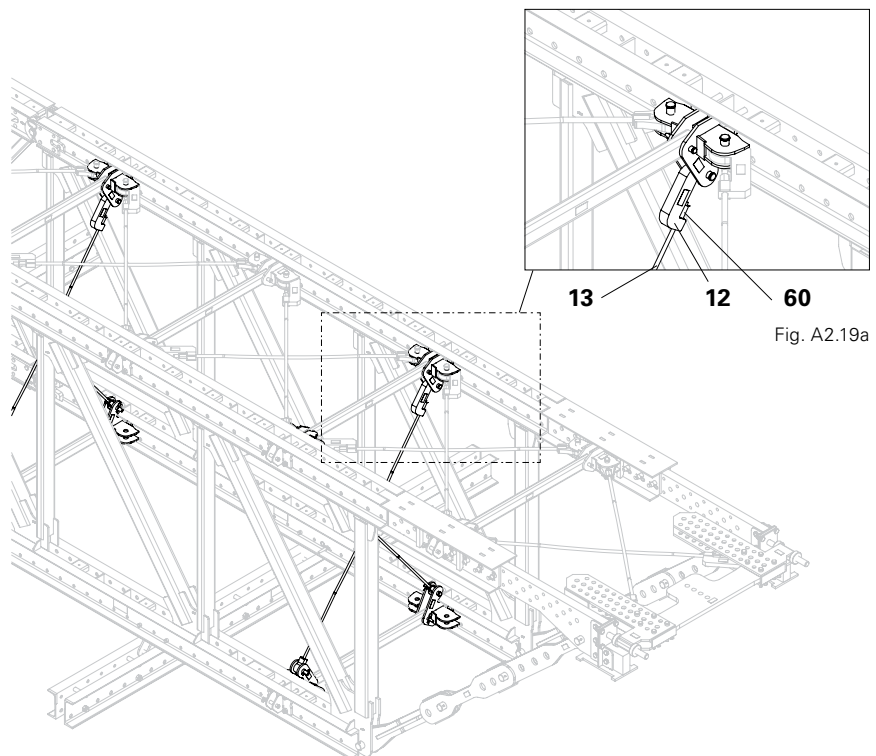

Fig. A2.19
4. Swivel eye nut (11) diagonally opposite into the Vertical Bracing Shoe (4) in the bottom chord.
5. Fix eye nut in position with bolts (45) and secure with cotter pins (40).
6. Tighten all nuts (60) on the Articulated Spanner with a wrench and adjust the bracing struts so they are free of play. (Fig. A2.19)